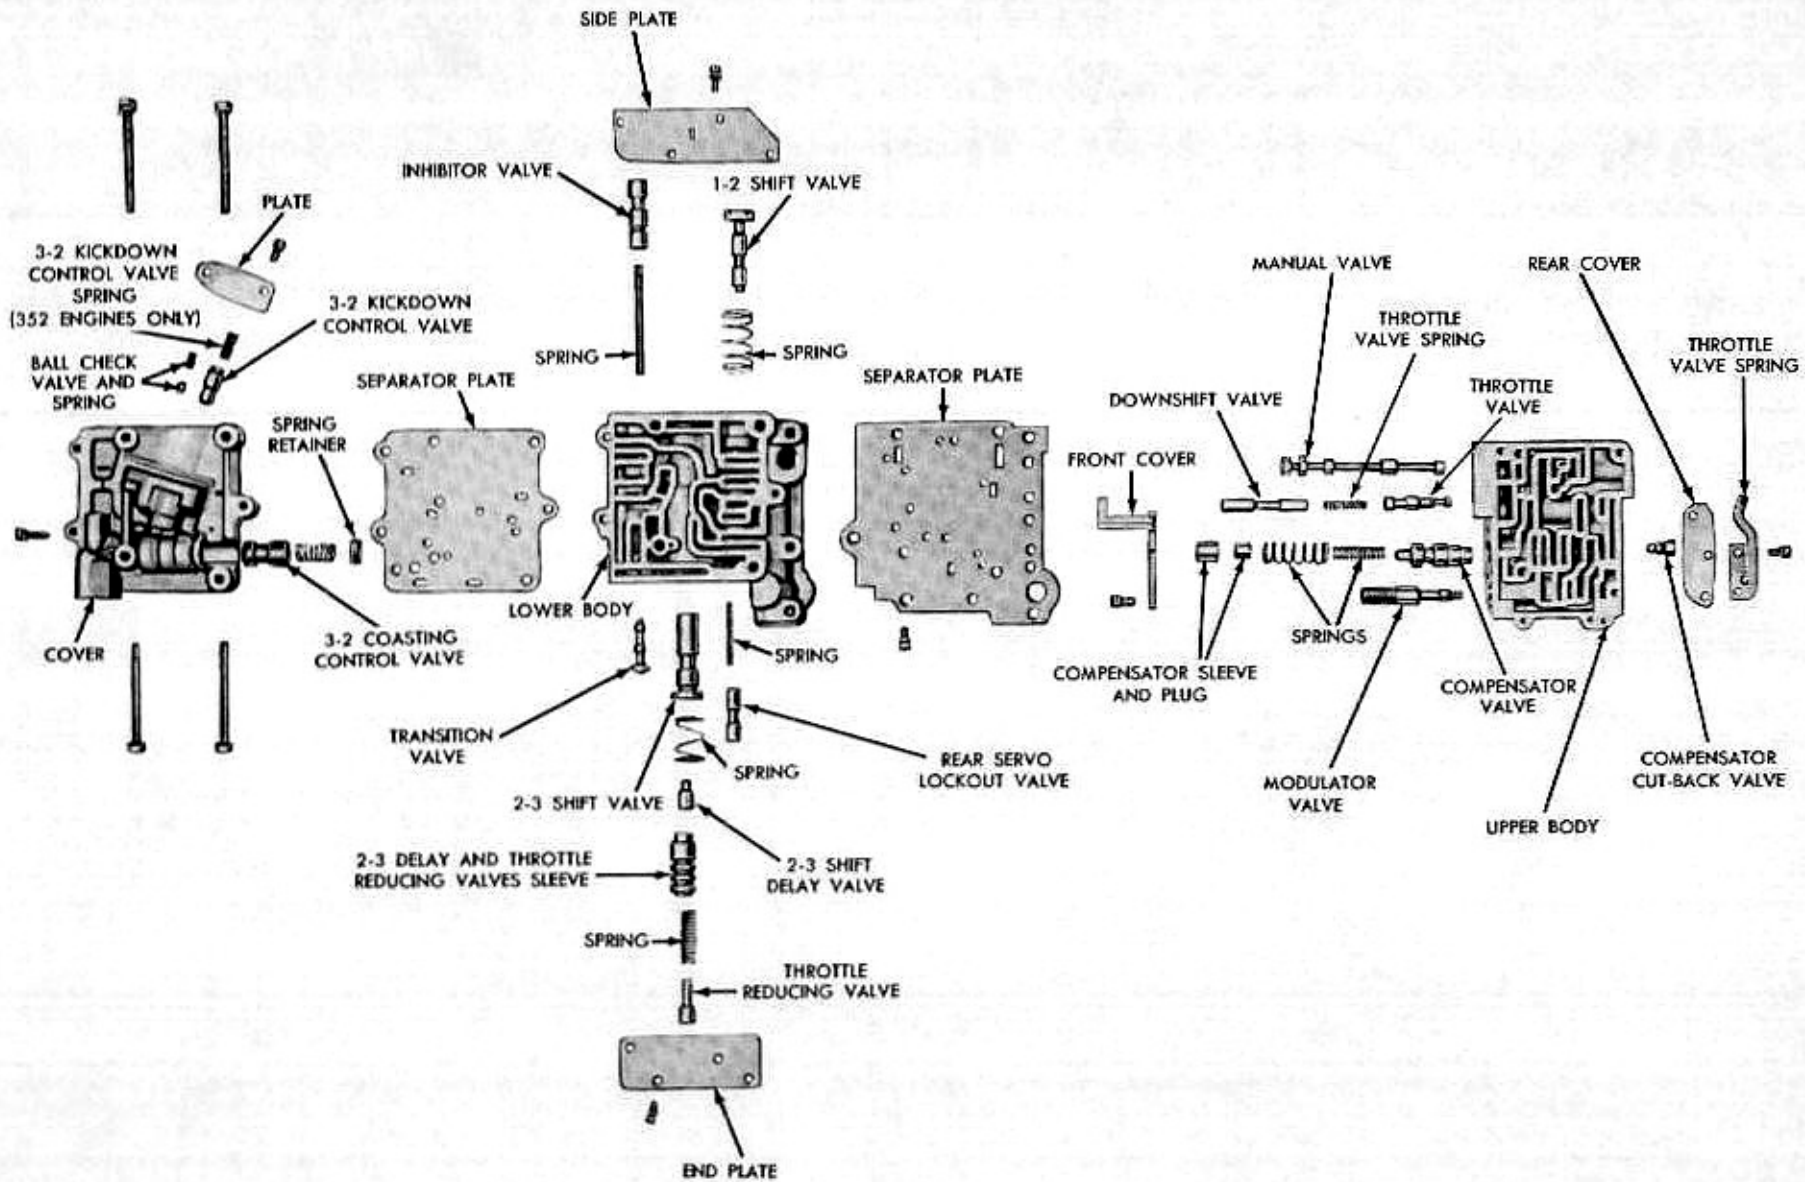

FIG. 20—Control Valve Body
3. Remove the upper body front plate (Fig. 20). The plate is spring loaded. Apply pressure to the plate while removing the attaching screws.
8. Remove the lower body side plate (Fig. 20). The plate is spring loaded. Apply pressure to the plate while removing the attaching screws.
14. On the valve body cover, remove the 3-2 kickdown control valve and check valve cover (Fig. 20).